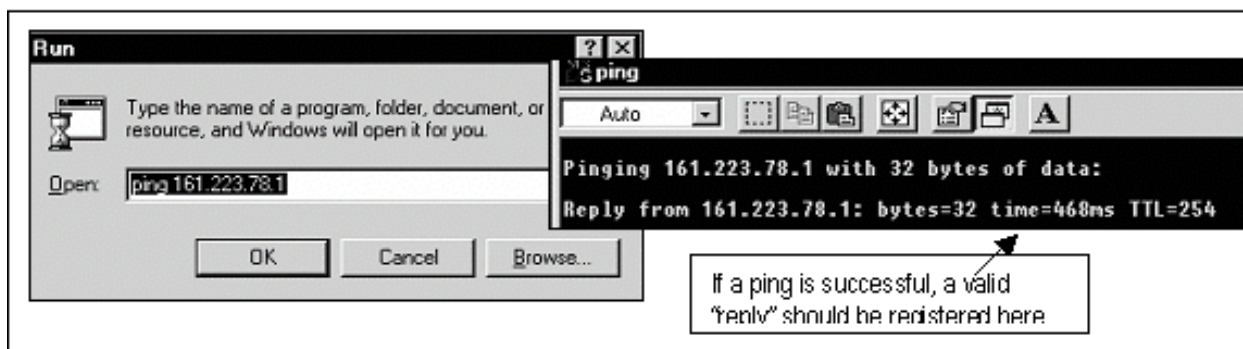

Figure 6-4: Check the Network Adapter and LAN
9. Type `ping xxx.xxx.xxx` where `xxx.xxx.xxx` is the RPMS IP address. Click the OK button (Figure 6-4).